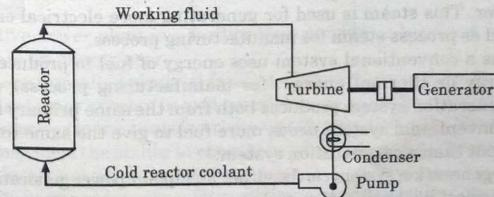
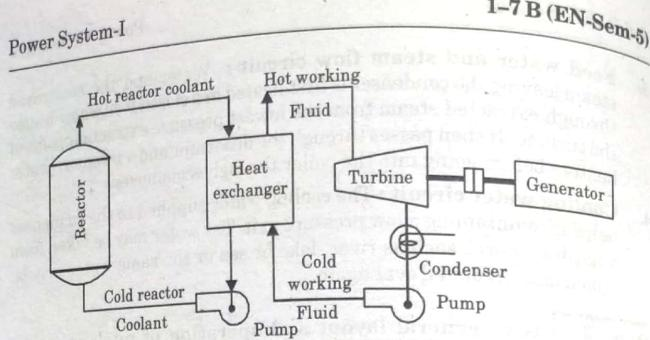

Fig. 1.5.1. Direct cycle, reactor coolant used as the working fluid.
Fig. 1.5.2. Indirect cycle reactor transfer heat of separate working fluid.
- The schematic representation of nuclear power systems using the direct and indirect heat transfer approaches are as shown in Fig. 1.5.1 and Fig. 1.5.2.